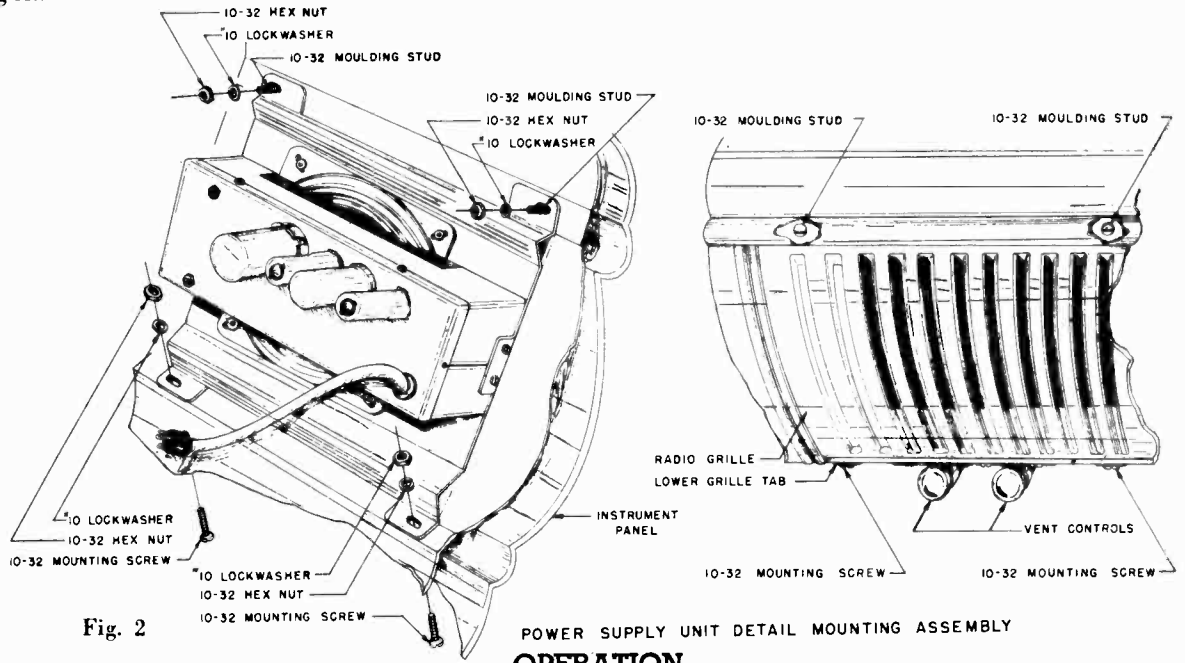

Fig. 2
4. Install Power Supply Unit behind Radio Grille and position into place so that holes in top of unit slide over moulding studs as shown in Fig. 2.